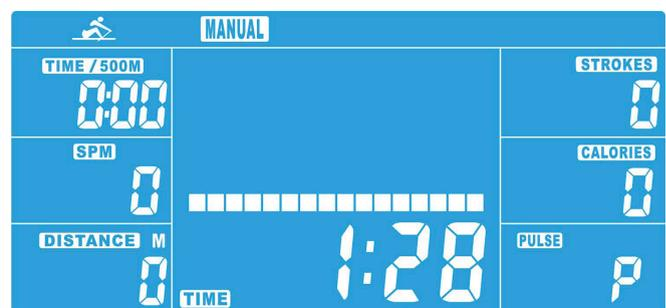

figure 3
- 3) Assemble the rear cover (12) to the rear supporting bracket set (13), using four cross screws (72), four flat washers (81) and four spring washers (86) - see figure 3.
- 4) Assemble the sliding beam (19) to the main frame (22), using two flat washers (78), one bolt (84) and one Anti-loosen nut (55).
4. Press the START/STOP button to start your training (fig. 3). The set values will be counted down. You can adjust the resistance level (1 - 16) by using the UP and the DOWN button.